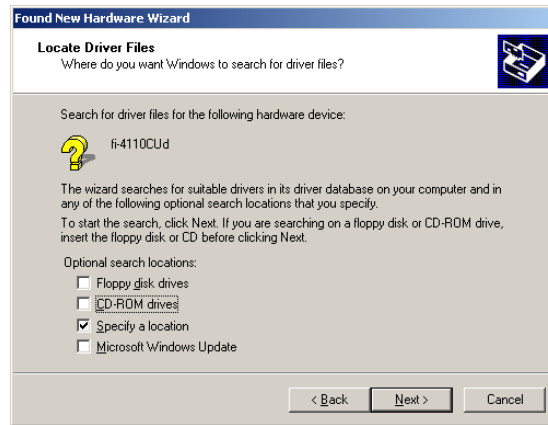

Figure 9. Choose to Specify a Location
- 6 At the screen similar to Figure 9, select **Specify a location**. Click **Next**.